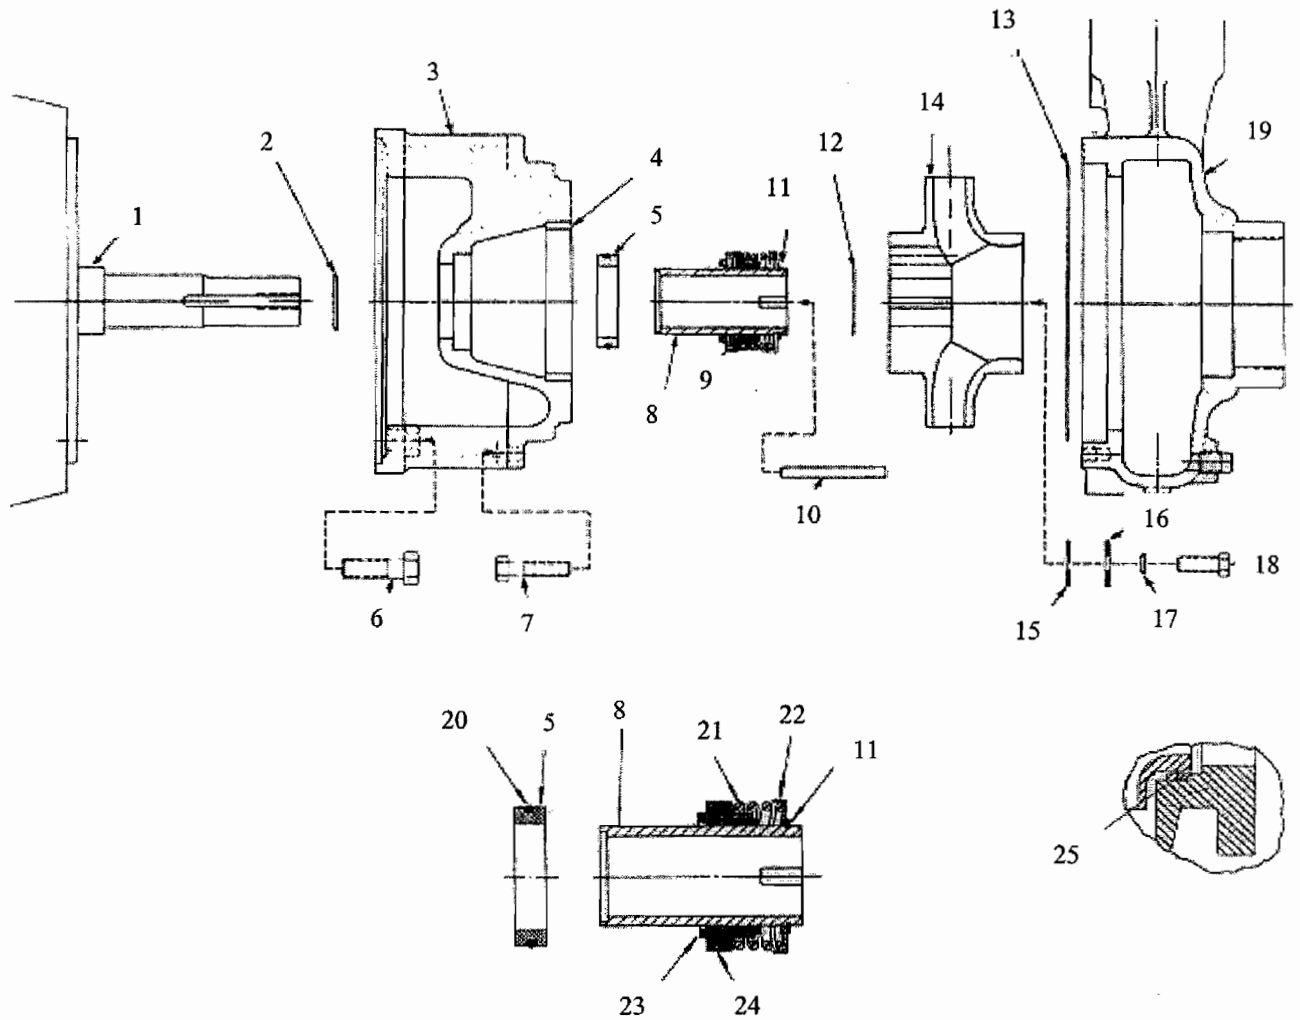

Figure 4-7. Fire Pump
a. Replace (Refer to Figure 4-7)